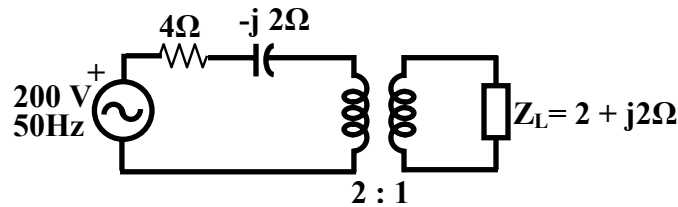

Figure 23.9: Basic scheme of protection.
1. In Figure 23.9, the *ideal transformer* has turns ratio 2:1. Draw the equivalent circuits referred to primary and referred to secondary. Calculate primary and secondary currents and the input power factor and the load power factor.